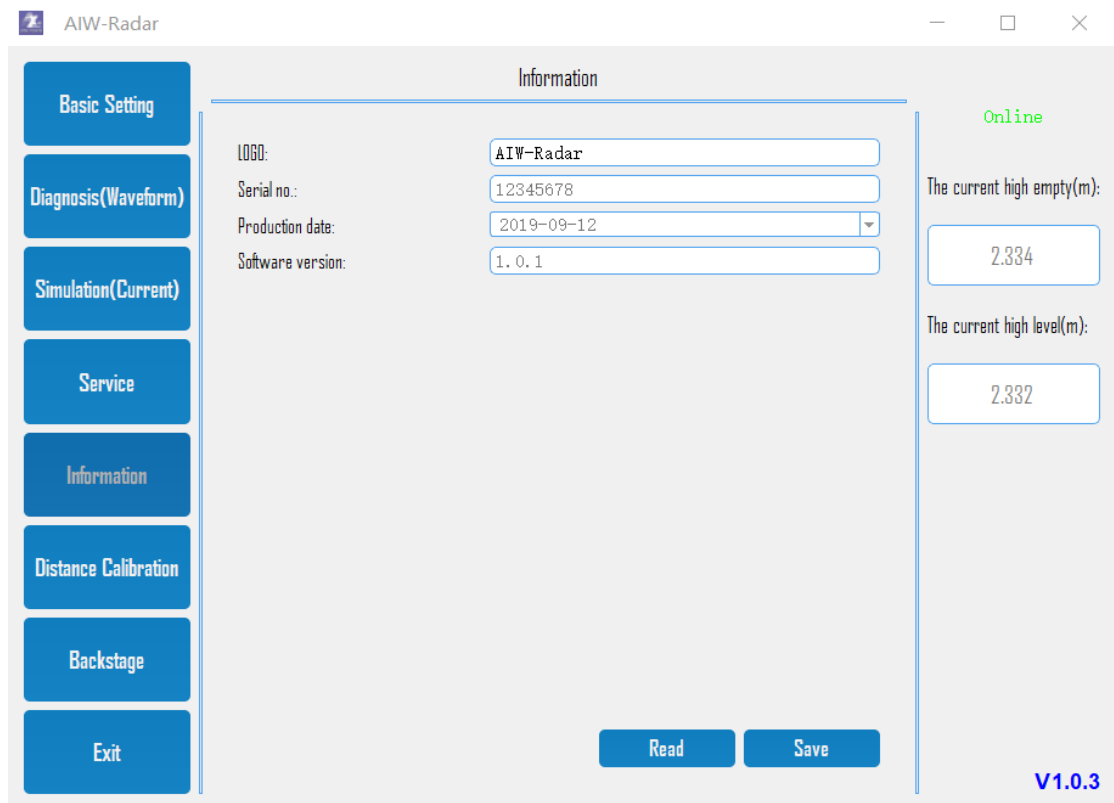

Figure 7.
8. Click on the "Information" button on the left side of the main interface, and the main interface will display equipment-related production information. It is suggested that this parameter be set only in the production process. As shown in Figure 7.